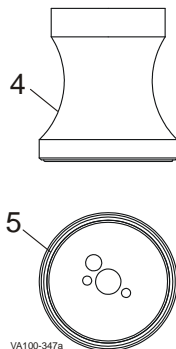

Figure 5 : Adapter and Bottom View with O-ring
2. Place the adapter (Figure 5, item 4) on the existing actuator. Ensure that the o-ring (Figure 5, item 5) is in place.